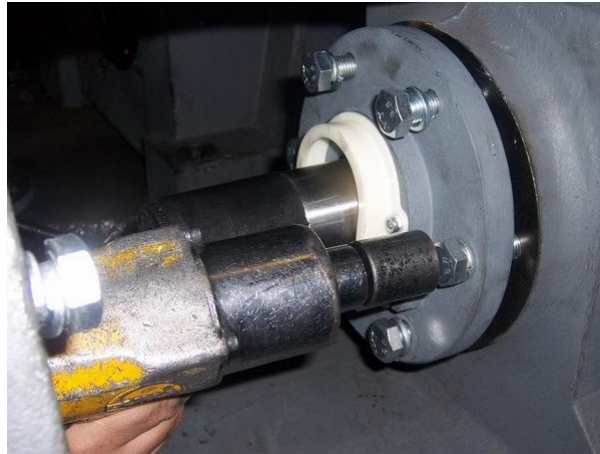

Figure 47 Worm Shaft Bearing replacement
19. Place the worm shaft through cover into the worm shaft motor side, tighten the worm shaft through-cover with the six Bolts (M16x50) and washers (16) to 150Nm (110 ft-lb) See Figure 47.
- Remove the six bolts (M16x50) and washers (16) then remove the worm shaft back cover and remove the old O-Ring. See Figure 47.
- Apply some 3# General purpose lithium lubricating grease into the new O-Ring ($\Phi 134.4$ (ID) 3.1), and install it onto the worm shaft back cover.
- Tighten the six Bolts (M16x50) and washers (16) to fix the worm shaft back cover to 150 Nm (110 ft-lb).